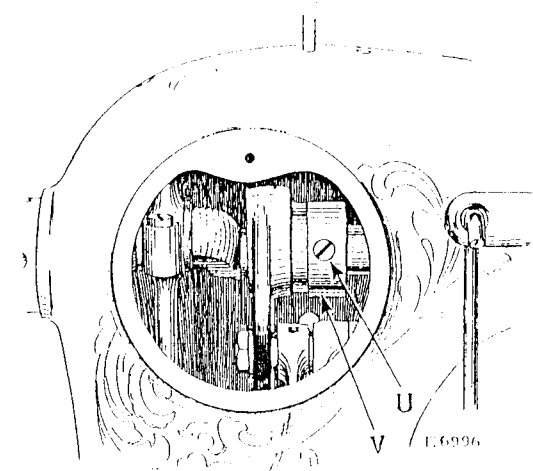

FIG. 21. ADJUSTMENT FOR TIMING FEEDING MECHANISM
When it is necessary to time the feeding mechanism, press the stitch regulator (C, Fig. 2, page 4) down to its lowest point for the longest stitch and turn up the round cover plate at the back of the machine. Loosen the feed eccentric set screw (U, Fig. 21) and turn the feed eccentric (V, Fig. 21) until the feed is correctly timed as instructed above, then securely tighten the set screw (U).